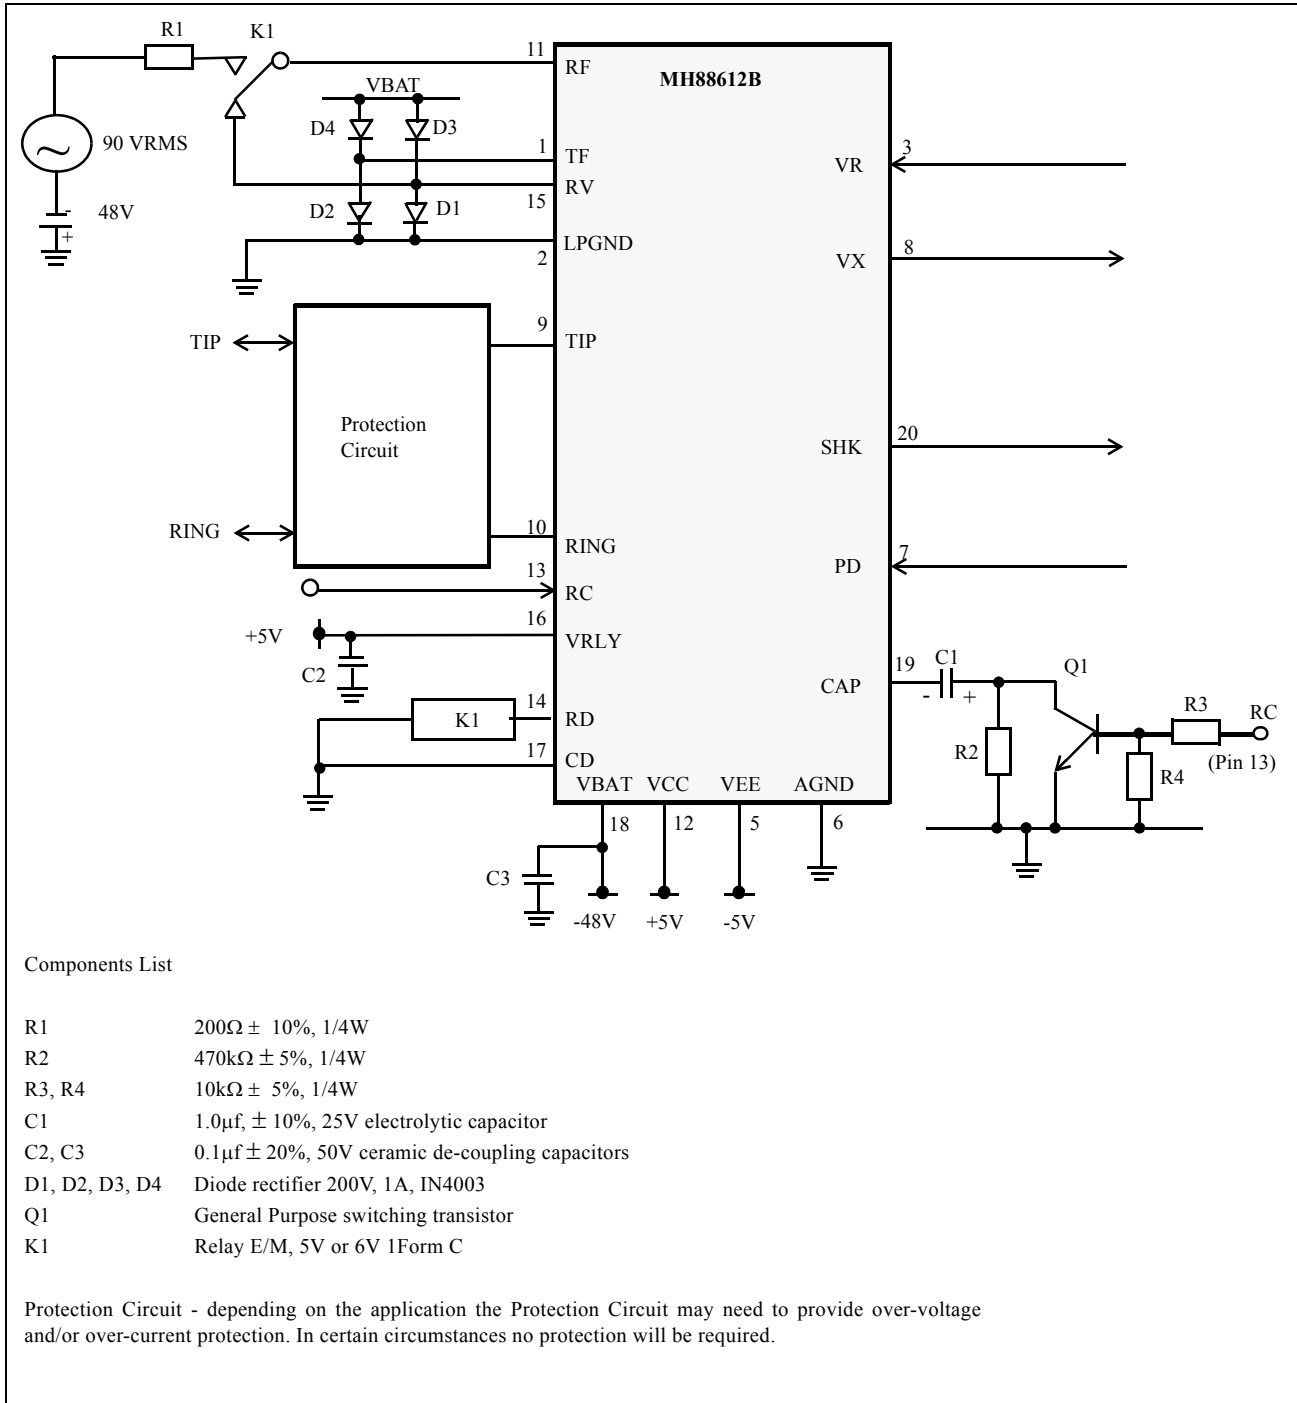

Figure 3 - Application Circuit
In Figure 3 a ringing signal (e.g., 90 Vrms and -48Vdc) is applied to the line by disconnecting pin 15 (RV) from pin 11 (RF), and connecting the ringing voltage at pin 11 (RF) by use of the relay K1.